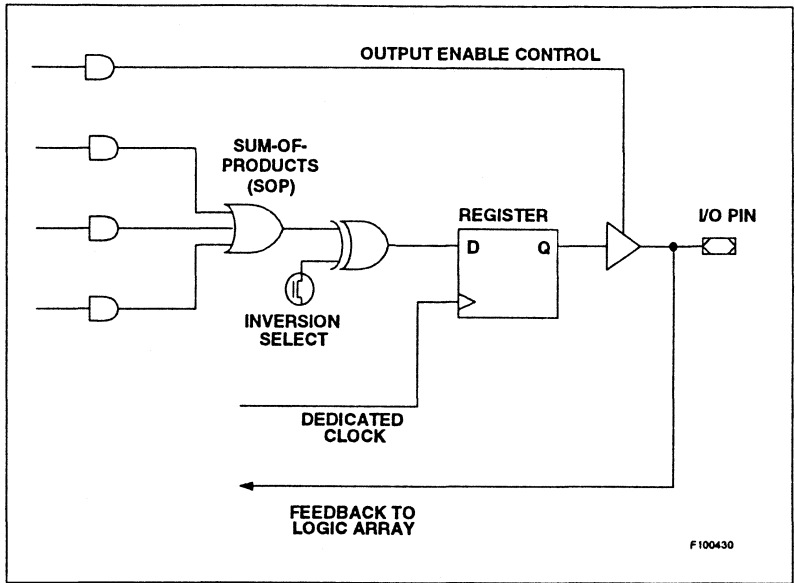

Figure F-4. Registered Output With Options
Other output options may include the ability to select a registered versus a combinatorial output, and an output enable control (one or more p-terms). Registered outputs may contain preset and clear signals (one or more p-terms) or asynchronous clock signals (one or more p-terms). Figure F-4 shows a registered output with a p-term to control its output enable (OE).